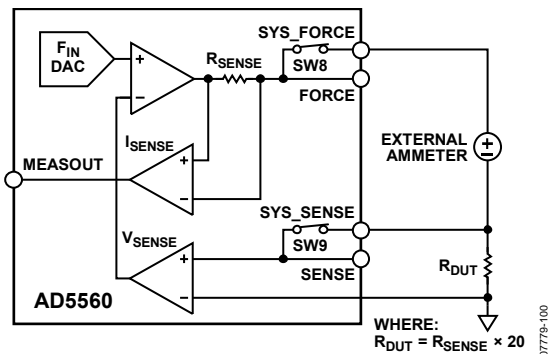

Figure 58. Measure Current Calibration
- d. Connect the SYS_SENSE pin to a precision resistor (R_{DUT}), where $R_{DUT} = R_{SENSE} \times 20$ of the current range, and connect its other terminal to ground (see Figure 58).